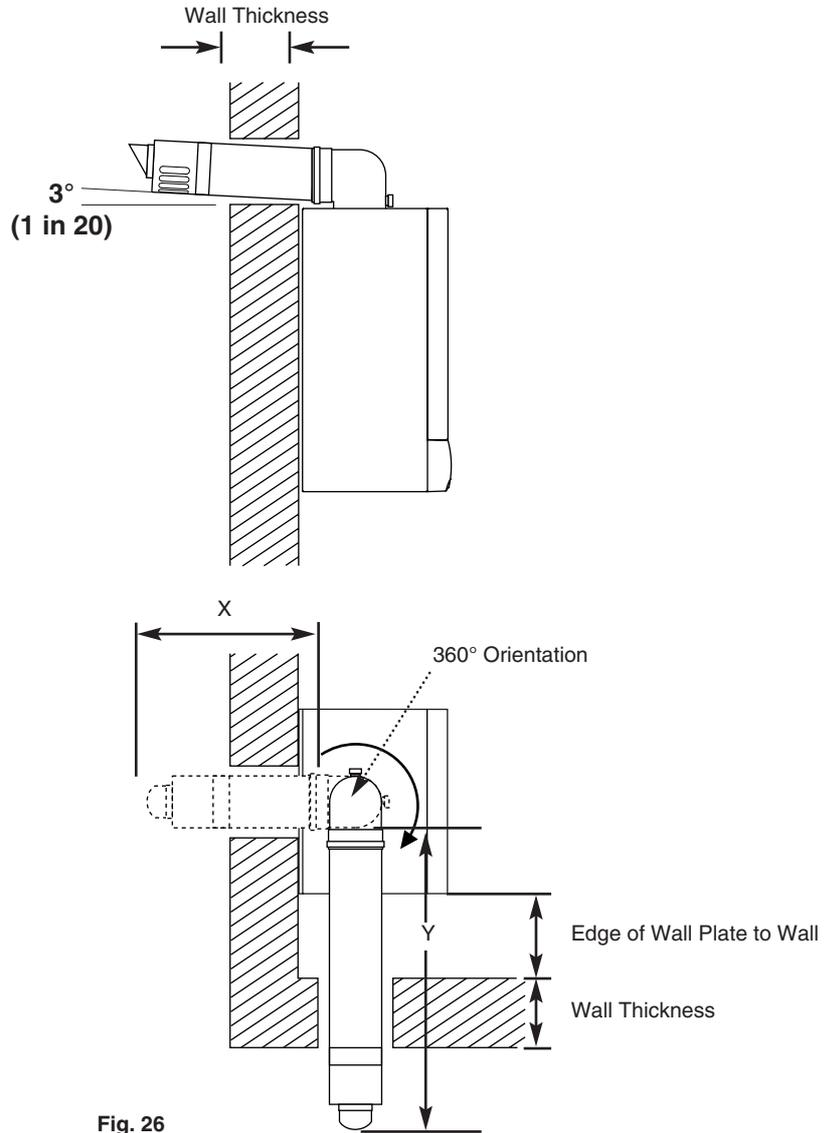

Fig. 26
2. For rear exit - measure the wall thickness (Fig. 26) and to this dimension add 220mm. This dimension to be known as (X).
4. For left hand exit - measure the distance from the edge of the wall plate to the inner face of the wall (Fig. 26) and to this dimension add the wall thickness + 250mm. This dimension to be known as (Y).